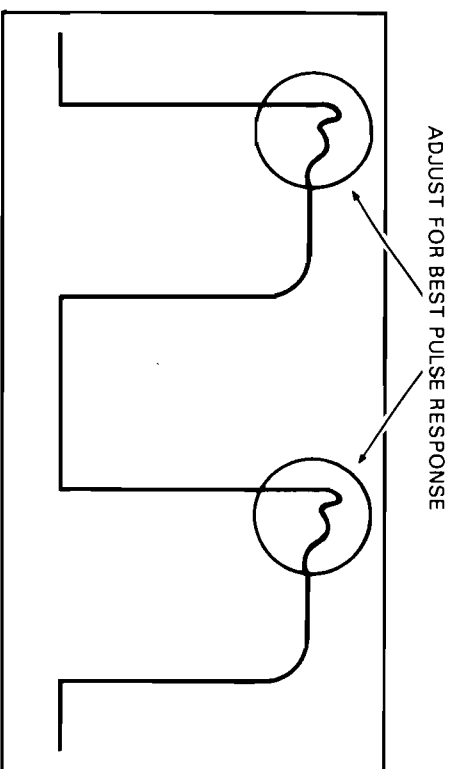

Figure 5-11. Y-amplifier Pulse Response Adjustment
- e. Set LF ADJ No. 1 (A4R24) and LF ADJ No. 2 (A4C17) for flattest pulse response as indicated in figure 5-11.